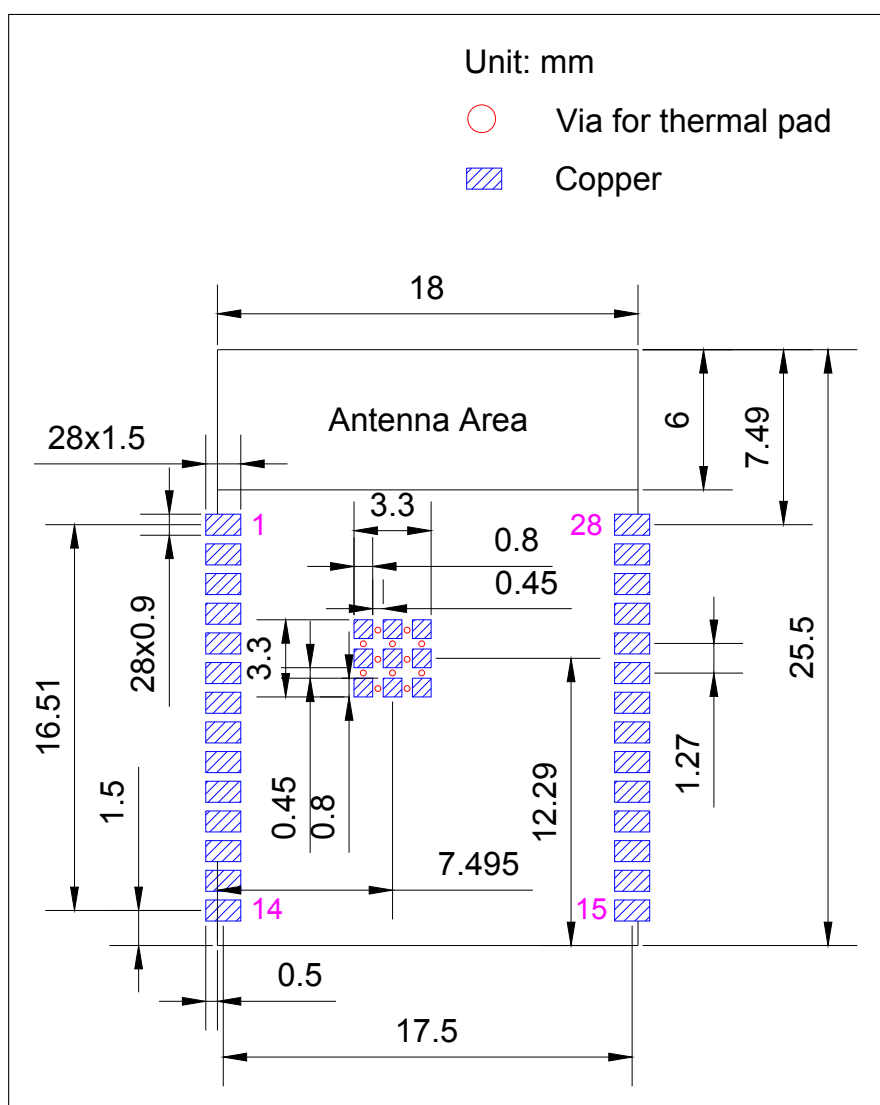
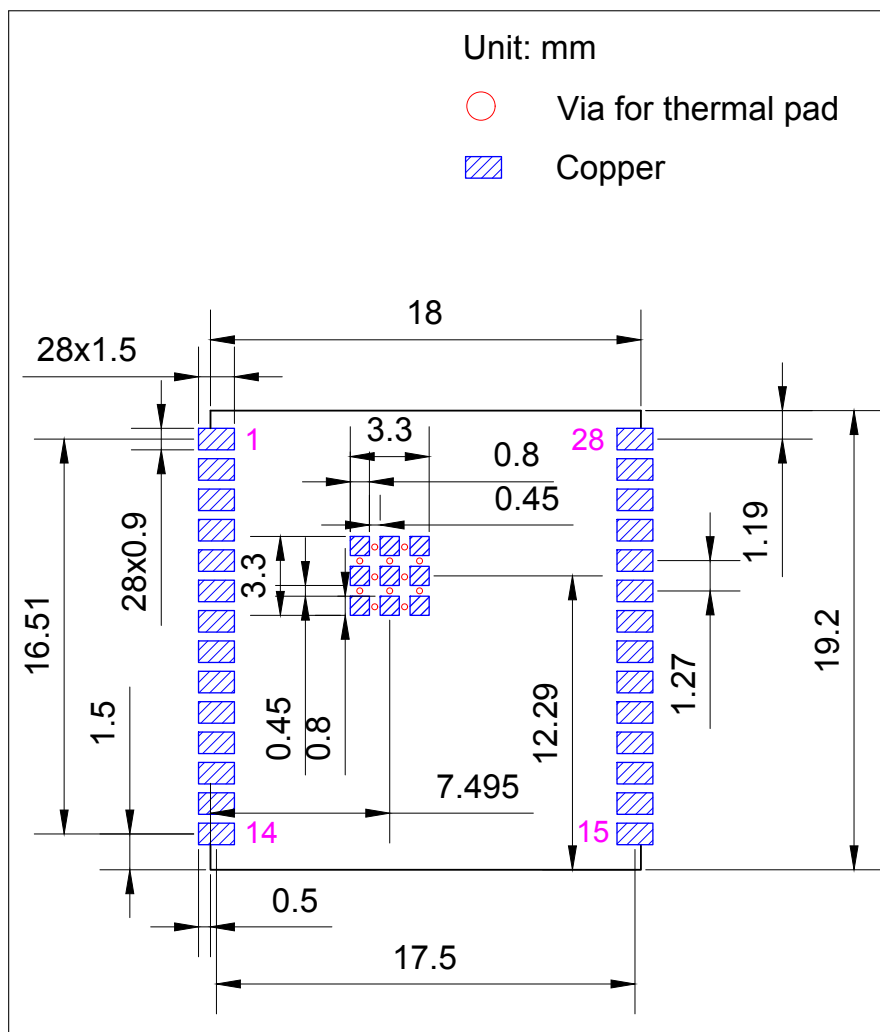

Figure 11-1. ESP32-C6-WROOM-1 Recommended PCB Land Pattern
Figure 11-2. ESP32-C6-WROOM-1U Recommended PCB Land Pattern
- Figures for recommended PCB land patterns with all the dimensions needed for PCB design. See Figure 11-1 *ESP32-C6-WROOM-1 Recommended PCB Land Pattern* and Figure 11-2 *ESP32-C6-WROOM-1U Recommended PCB Land Pattern*.
- Source files of recommended PCB land patterns to measure dimensions not covered in Figure 11-1 and Figure 11-2. You can view the source files for ESP32-C6-WROOM-1 and ESP32-C6-WROOM-1U with Autodesk Viewer.